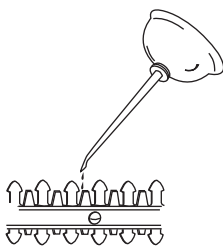

Fig. 6
- Apply light machine oil along the edge of the top blade strap (Fig. 6).